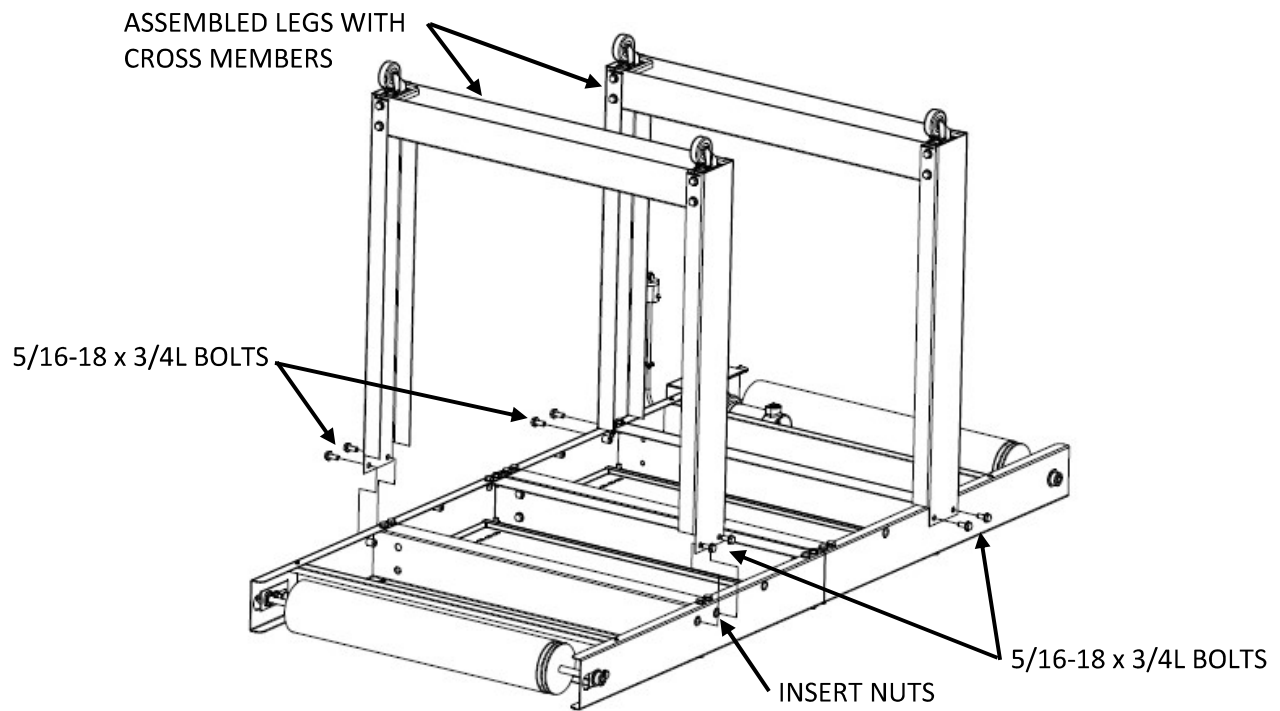

Figure 3
7. Place the assembled **LEGS** with **CROSS MEMBERS** over the **CONVEYOR**, aligning the holes of the **LEGS** with the **INSERT NUTS** of the **CONVEYOR** (see **Figure 3**).